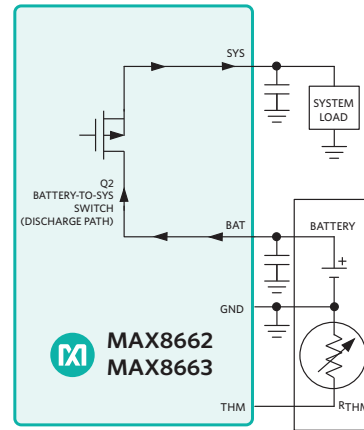

Figure 9. Power Path With Battery, But No External Supply
2. When the battery is connected and there is no external power input, the system is powered from the battery (Figure 9).